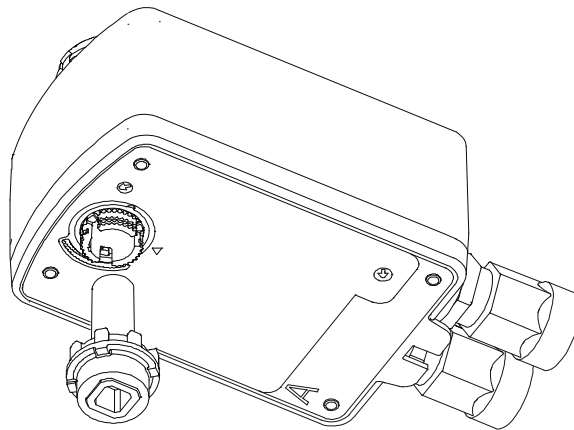

Figure 12: Inserting the drive shaft
4. Insert the drive shaft into Side A (Figure 12). The drive shaft is keyed for one-way assembly. With gentle pressure applied, rotate the drive shaft until the key aligns and the drive shaft falls into place.